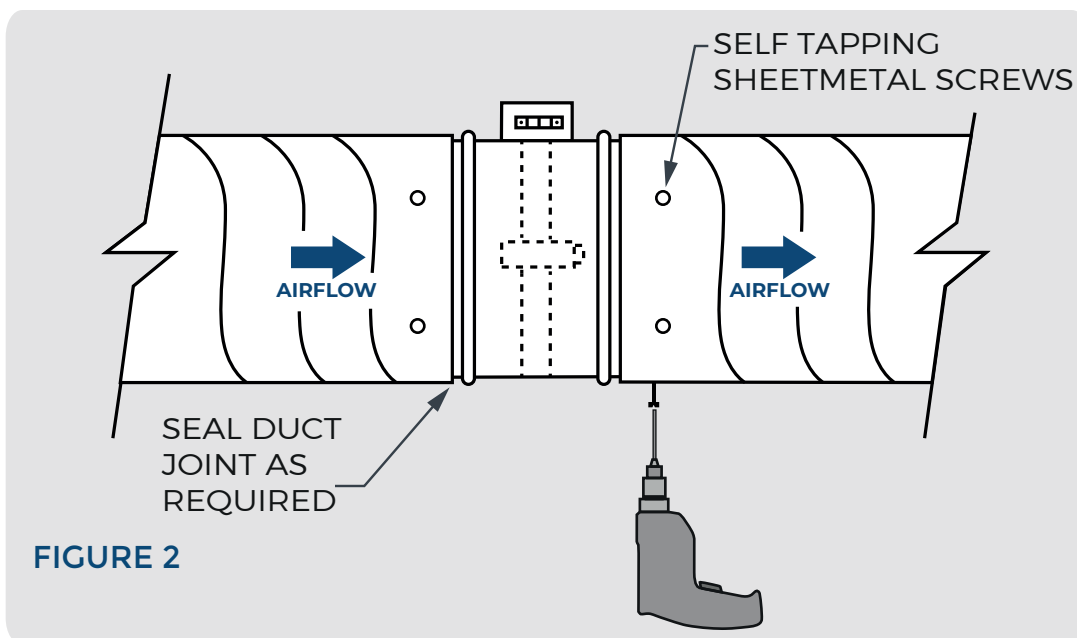

FIGURE 2
- b. Screw through the duct and fitting joint using sheet metal screws (not provided) and seal the duct joint as necessary. (See Figure 2).
3. Install the DMR-6000 such that the ionizing needles are pointed downstream of the airflow. A directional arrow is located on the label to aid in unit orientation. (See Figure 2).